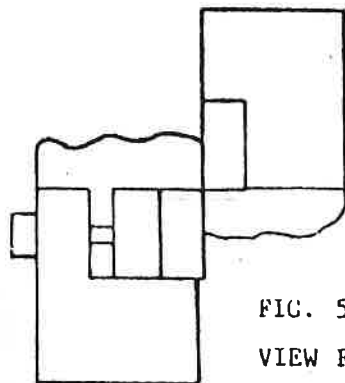
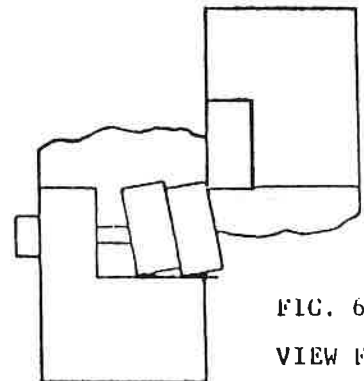

FIG. 5
FIG. 6
- 1 Withdraw all securing bolts (item 6) using allen key provided and a piece of tube. Take out all blades (items 3,4 & 5) clean off and make sure threads are free of dirt, withdraw adjusting screws (item 7). Clean all threads on bolts and in shear body and make sure blade seats are free from any dust, burrs etc.
- 2 Re-fit upper blade (item 5) with securing bolts lightly greased on thread. Make sure the blade is fully seated and then firmly tighten with allen key and tube.
- 3 The head if not already shall be required to be in the down position with the machine switched off (see fig. 5). Place back up blade and lower blade (items 3 & 4) in position and loosely replace lightly greased securing bolts and adjusting screws (items 6&7).
Make sure the blade has not kicked over as in Fig. 6 but seated squarely as in fig. 5.